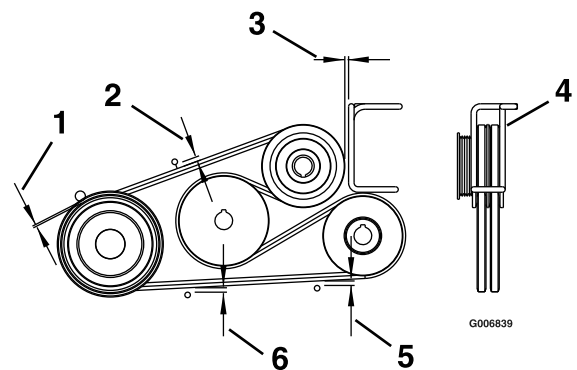

Figure 12
3. Adjust belt guides as shown in Figure 12.